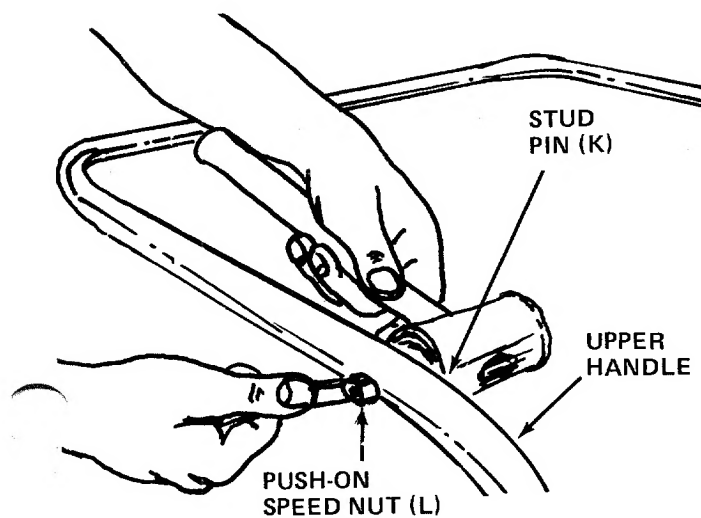

FIGURE 6
3. Place the stud pins (K) in holes in upper handle (head of pins go to the inside of handle). Secure pins with push-on speed nuts (L) by holding speed nut with box wrench and tapping pin with hammer. See figure 6.